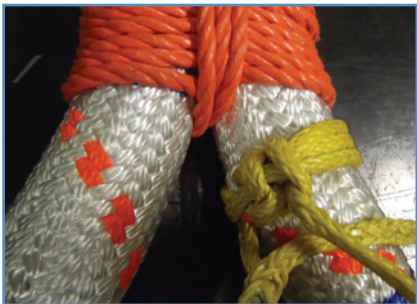

figure 23
- Again make a knot by going underneath the clove hitch, but now in the opposite direction (figure 23).